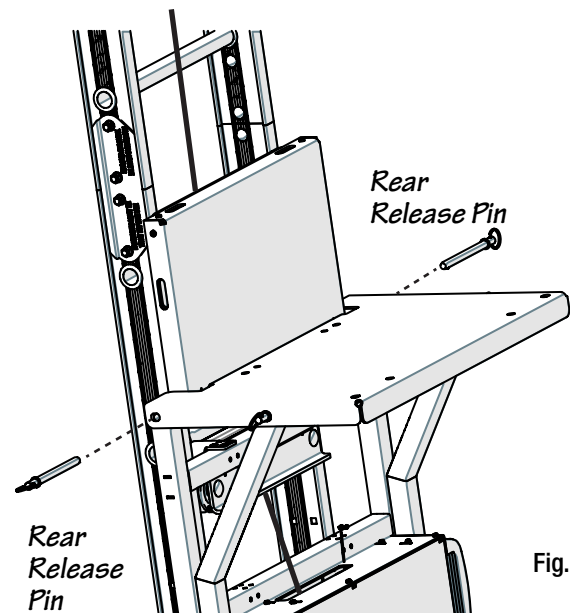

Fig. 2
- Insert a quick release pin on each side, passing through the base, carriage frame and the platform cap. As shown in Fig. 2.